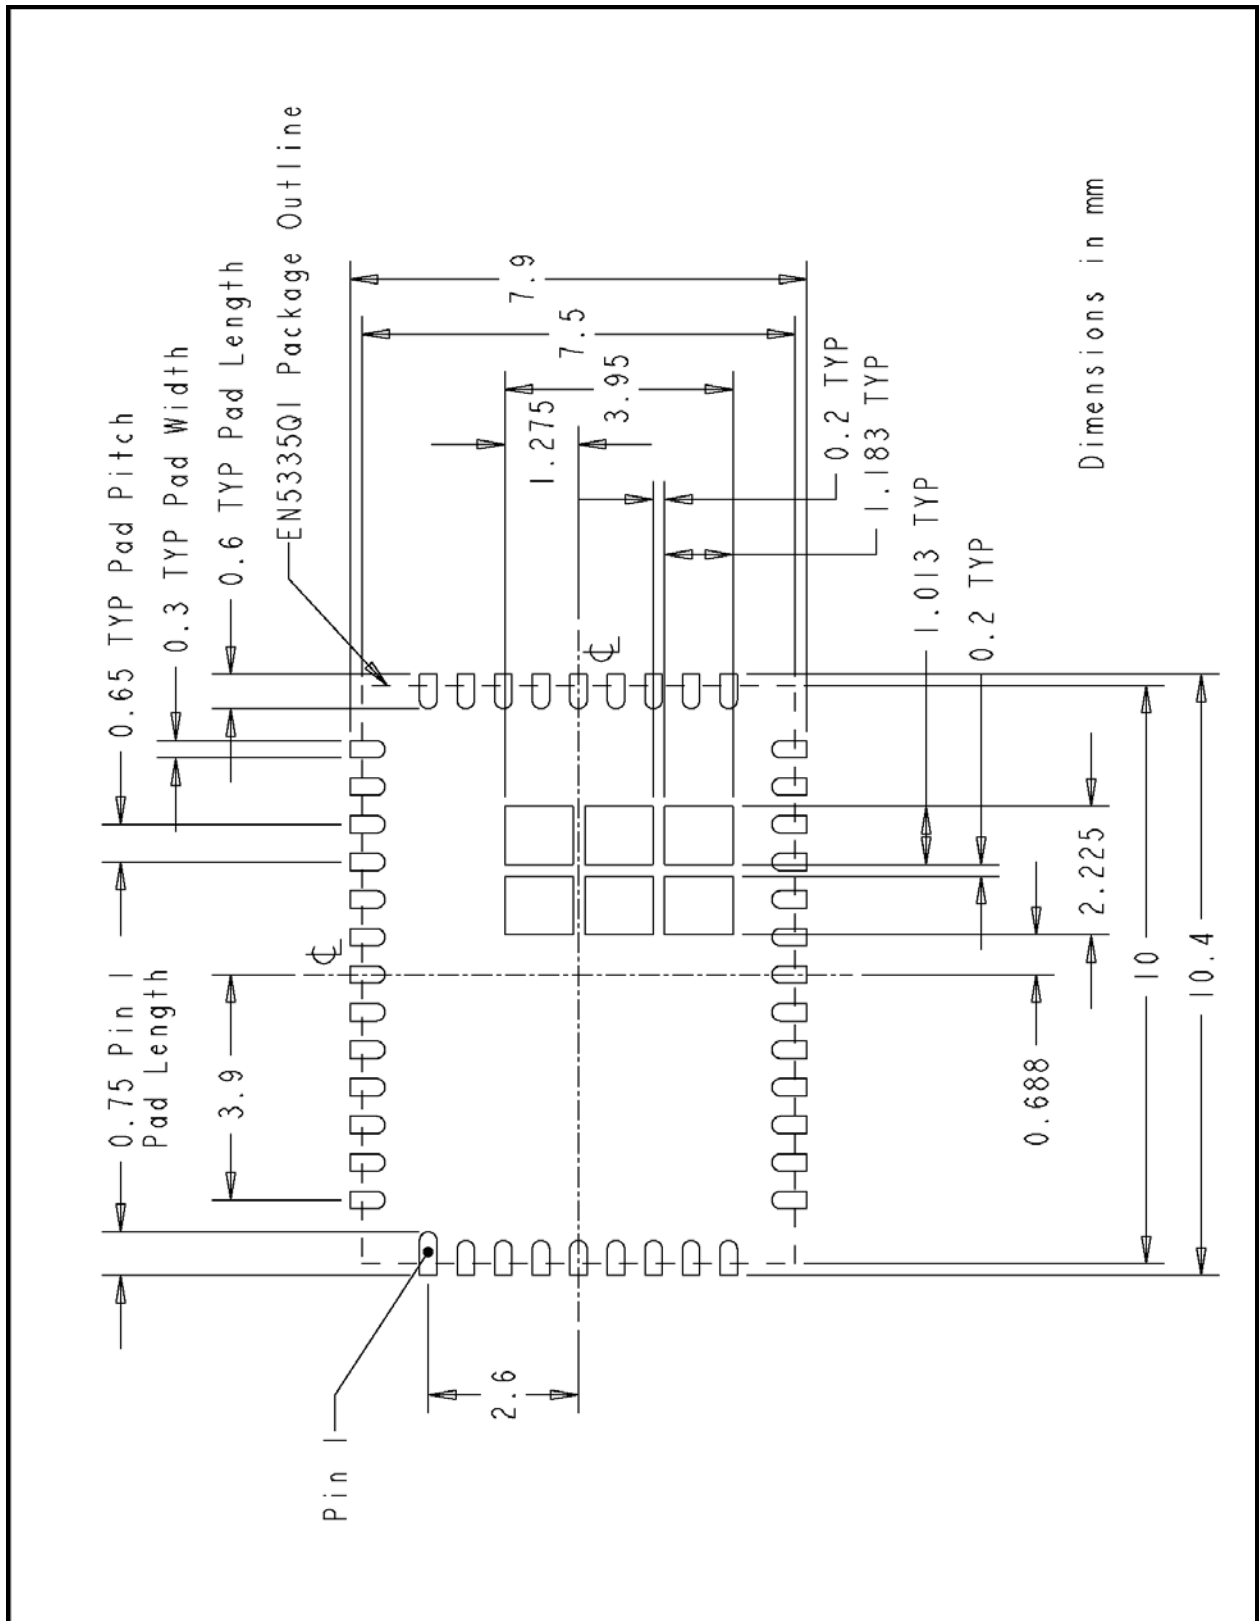

Figure 5 Solder stencil aperture layout for the EN5335Q1 QFN package
Figure 5 shows the solder stencil aperture layout for the EN5335QI QFN package.
- If open through-hole plated vias are used in the PCB GND pad then the stencil aperture opening should have a size ratio of 0.95:1. Note: the quantity and diameter of the vias will determine the amount of solder that will flow into the vias during reflow reducing the solder volume between the EN5335QI GND pad and the PCB GND pad. The solder stencil aperture layout should use one large aperture opening for the GND pad with dimensions as shown in Figure 5.
- If plugged and capped through-hole vias are used in the PCB GND pad then the stencil aperture opening should have a size ratio near 0.50:1. Note: less solder paste will be required since the vias will not fill with solder during reflow. The solder stencil aperture layout should use six small aperture openings (known as a window pane solder stencil aperture) for the GND pad with dimensions as shown in Figure 5.